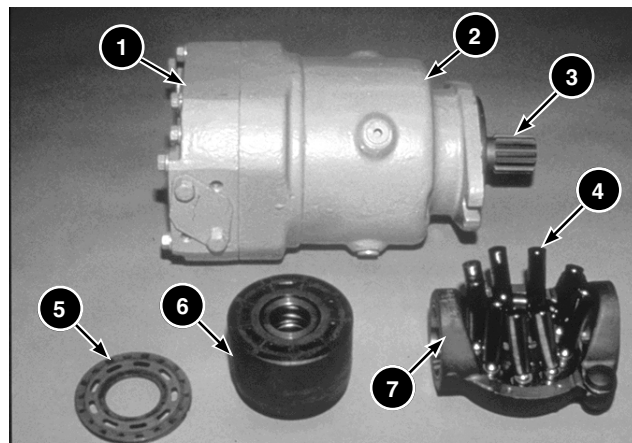

Fig. 3.3.17 Common Parts
Most piston pumps and motors have similar or common parts and use the same nomenclature. The pump parts in Figure 3.3.17 are the head (1), the housing (2), the shaft (3), the pistons (4), the port plate (5), the barrel (6) and the swashplate (7).